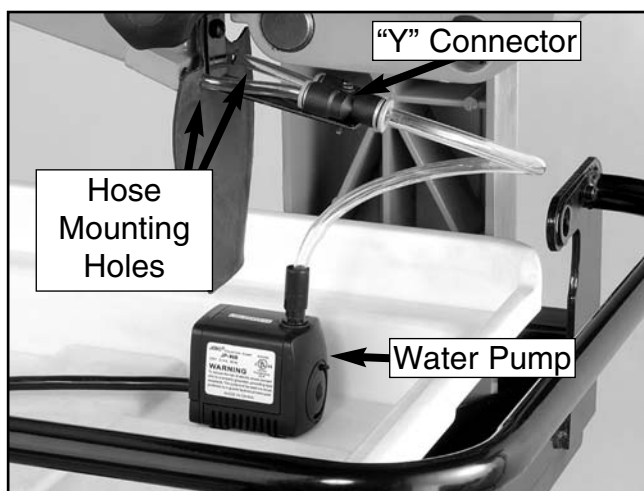

Figure 12. Lube system.
10. Place the water pump inside the water reservoir and plug the pump cord into the receptacle on the side of the motor assembly. A plastic hose runs from the pump to a “Y” connector and then slides through two mounting holes on each side of the blade guard base (**Figure 12**).